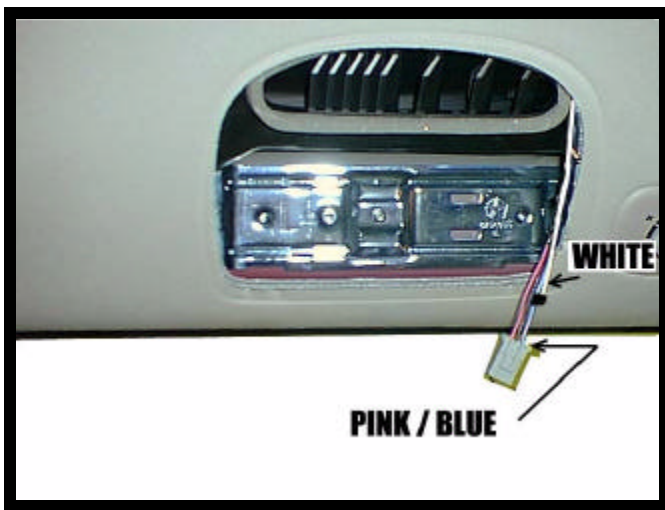

FIGURE 3
5. Construct a jumper harness that will connect the vehicle's dome light wires to the lights in video system. Connect the white wire from video system to the O.E. pink/blue wire. Connect the black wire from video system to the chassis ground. See Figure 3.